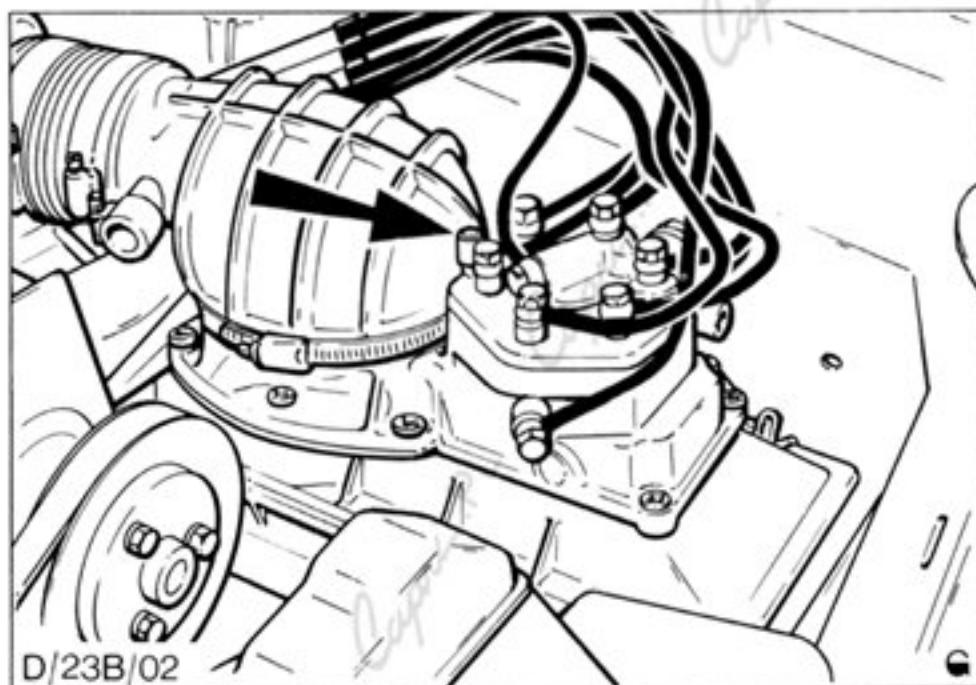

Fig.71. Mixture screw tamper-proof cap.
7. Remove tamperproof cap from mixture screw tube, Fig.71.